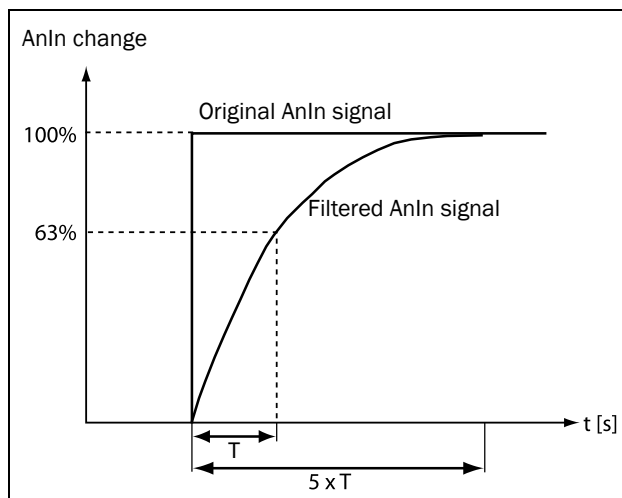

Fig. 53
If the input signal is unstable (e.g. fluctuation reference value), the filter can be used to stabilise the signal. See Fig. 53. This will result in a 63% change of the input signal within the set “AnIn Filter time” (T). After 5 times the set time (i.e. 5xT), AnIn will have reached 100% of the input change.